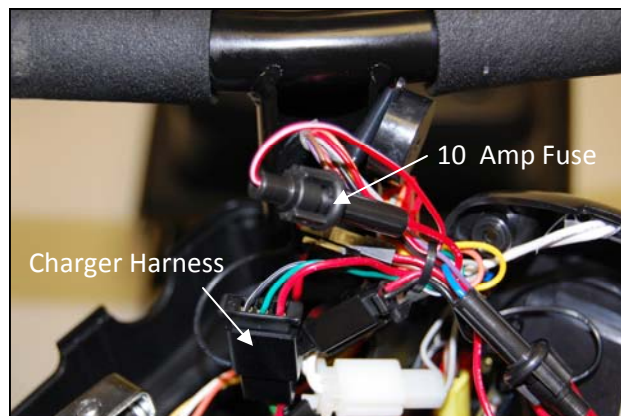

Figure 17. Charger Harness and Fuse
5. Check the charger harness (15) and fuse for continuity.
- Open? – Replace the 10 amp fuse or the charger harness as necessary. **See figure 17. Also, refer to the wiring diagram on page 11.**